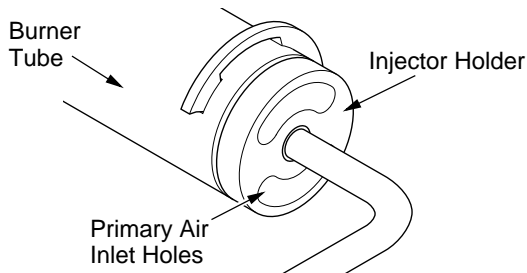

Figure 44 - Injector Holder On Outlet Burner Tube
If pilot flame pattern is incorrect, as shown in Figure 44
2. Inspect burner, pilot, and primary air inlet holes on injector holder for dust and dirt (see Figure 44, page 21).